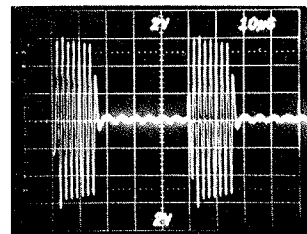

Figure 4-2
- h. Key cut and observe the blend pulses. There should be 7 sine wave pulses as depicted in Fig. 4-2.